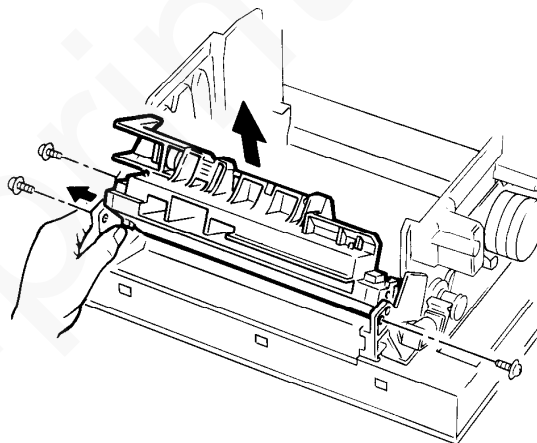

Figure 1. Right frame assembly
5. Remove the three screws retaining the right frame assembly to the chassis (figure 1).